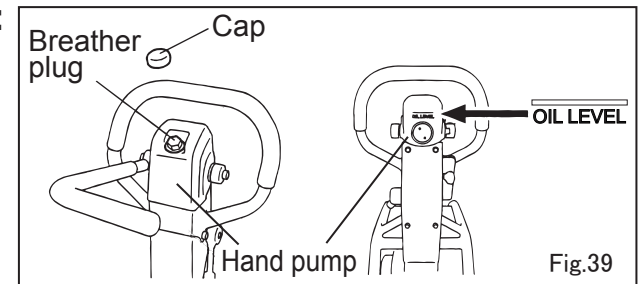

Fig.39
7. Checking the hydraulic oil (See Fig.39):